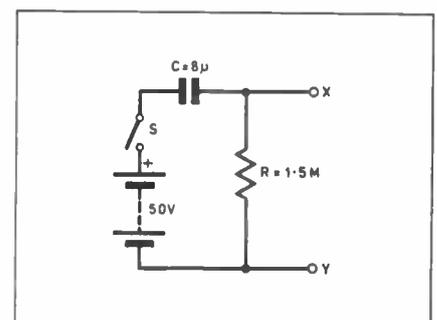

Fig. 6.8. Charging cycle problem.
- In the circuit of Fig. 6.8, $C = 8\mu\text{F}$ and $R = 1.5\text{M}\Omega$. What is the potential across the points X-Y (a) before switch S is closed, (b) at the instant S is closed, (c) 12 seconds after S is closed?